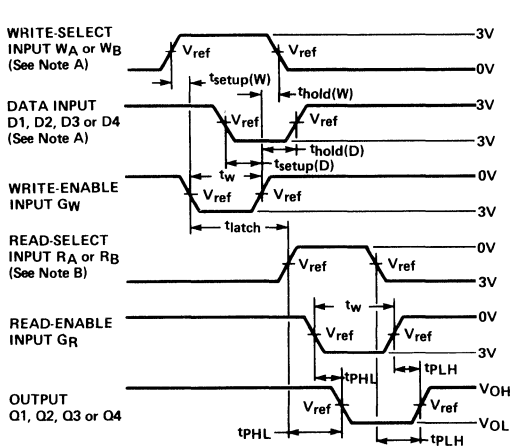

FIGURE 1
Test Conditions: <math>C_L = 15pF</math>, <math>R_L = 2k\Omega</math> (See Fig. 1, page 3-41 and Fig. B, page 2-174)
- NOTES: A. High-level input pulses at the select and data inputs are illustrated in Figure 1; however, times associated with low-level pulses are measured from the same reference points.